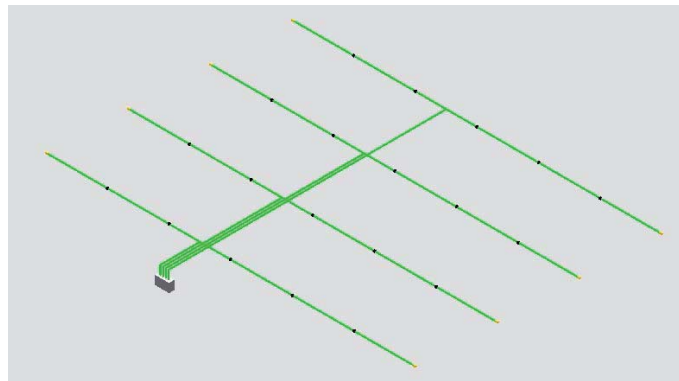

Figure 4 – Example of On Ceiling Detection (Branched Layout).
1. On Ceiling Detection – sampling pipes are located on the ceiling (Figure 4).
On ceiling installation, where the sampling pipes are installed directly on the underside of the warehouse roof structure or trusses, is the most common. An example of a branched layout, ceiling sampling pipe network configuration is presented below (Figure 4).